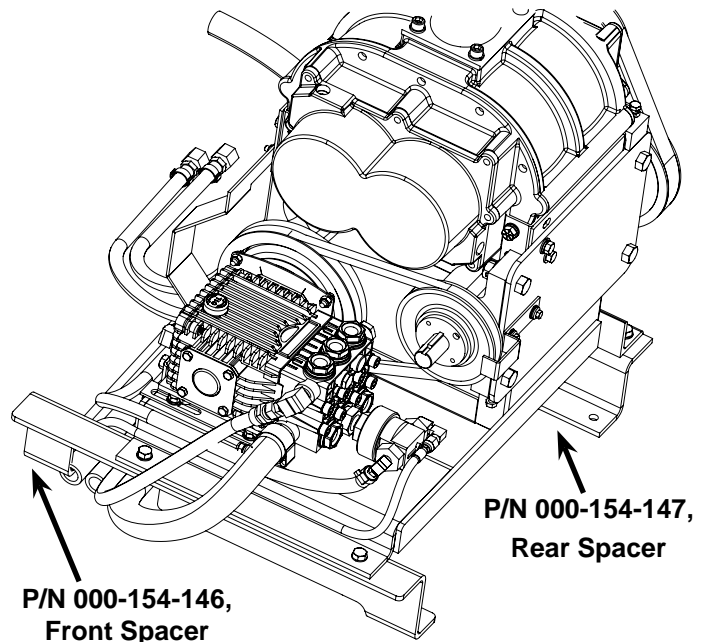

Figure 16. Dry Fit Spacers under Power Pack
1. Dry fit spacers under the power pack (see Figure 16).